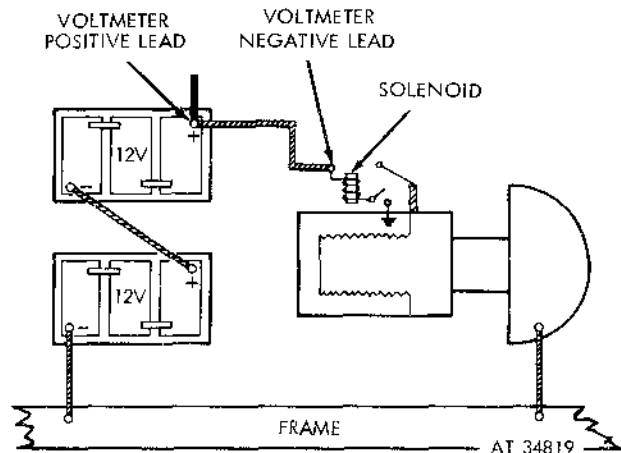

Figure 2-31. Battery-to-solenoid cable test.
d. Battery-to-Solenoid Cable Test (Fig. 2-31).
(1) Leave the voltmeter leads connected to the tester.
(2) Connect the positive (+) voltmeter lead to the positive post of the ungrounded battery.
(3) Connect the negative (—) voltmeter lead to the starter solenoid relay terminal.
(4) Place the voltage selector switch in the 50-volt position, close the starter switch with the ignition switch in the OFF position and read the voltmeter.
(5) If the voltage reading is less than 20 volts, change the selector switch to the 20-volt position and repeat (4) above.
(6) If the reading is less than 10 volts, change the selector switch to the 10-volt position and repeat (4) above.
(7) If the reading is less than 1 volt, change the selector switch to the 1-volt position. Repeat the procedure and read the voltmeter.
(8) The maximum allowable voltage loss is 0.2 volt.
(9) After the check is completed, turn the voltage selector switch to the OFF position, and remove the voltmeter leads from the battery to the solenoid cable.